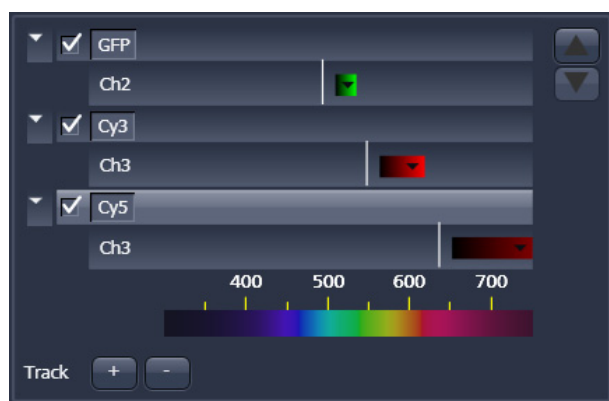
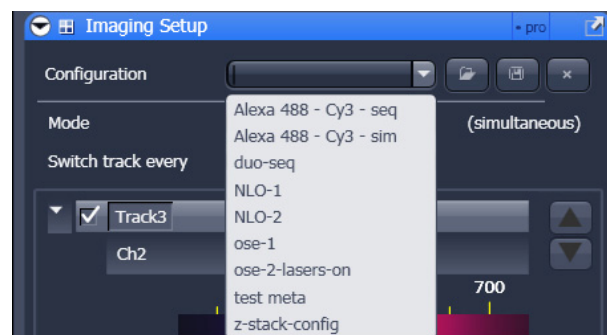

Fig. 16 Detection Bands & Laser Lines display
Fig. 17 Track Configurations window
- In the Imaging Setup tool the **Detection Bands & Laser Lines** are displayed in a spectral panel (Fig. 16) to visualize the activated laser lines for excitation (vertical lines) and activated detection channels (colored horizontal bars).
- For **storing** a new **configuration** enter a desired name in the first line of the **Configurations** list box (Fig. 17) and click  **Store**.
The following functions are available in the **List of Tracks** panel in the **Imaging Setup Tool** (Fig. 15, Fig. 16 and Fig. 17).